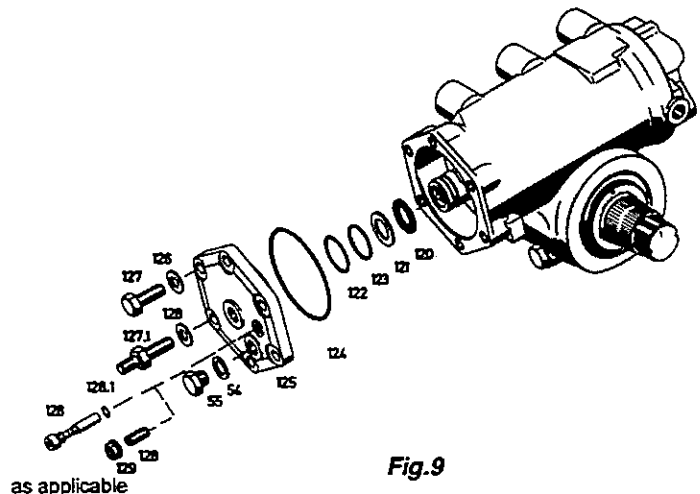

Fig.9
Unscrew hexagon screws (127) with or without washers (126) (*Fig.9*).